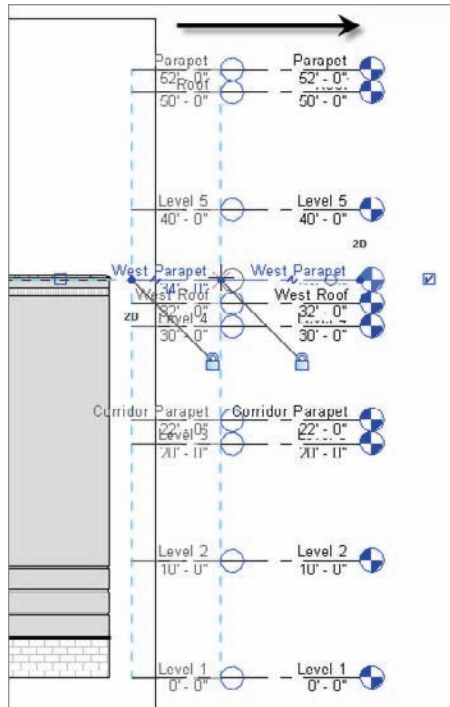

FIGURE 3.40 You can adjust the levels by picking and dragging the blue grip at the intersection of the level line and the datum bubble.
7. Slide the elevation markers to the right, out of the way of the walls (see Figure 3.40).